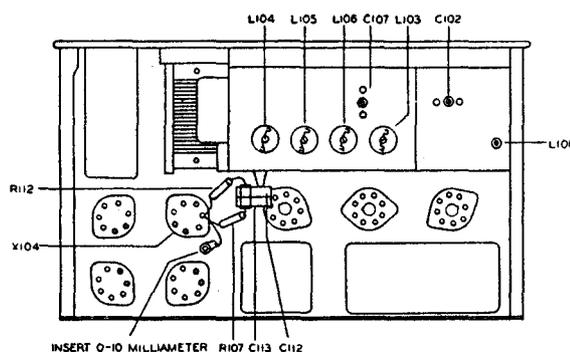

Fig. 18 Type -52245 Radio Transmitter—
5.2.3.1. Improper alignment of the transmitter is indicated by low grid excitation to the power amplifier and by inaccurate dial calibration, especially at the high frequency end of each band. To check the excitation insert a 0-10 ma meter between the junction of resistors R107 and R112 and ground. Refer to Figure 18. The grid current should be between 3.5 ma and 5.0 ma. If realignment appears to be necessary the equipment needed to align the transmitter circuits consists of a means of accurately measuring frequency, a low range d-c milliammeter (0-10 ma) and suitable screwdrivers and wrenches.
5.2.3.4. Disconnect the wire which connects the junction of power amplifier grid resistors R107 and R112, to ground and insert the milliammeter between the junction of the resistors and the ground connection. (Refer to Figure 18 for the location of the resistors mentioned above.) The alignment procedure outlined below should be followed in detail: